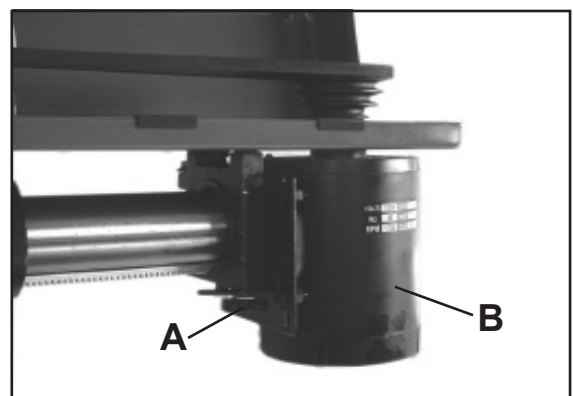

Figure 24
3. Release the tension on the belt by loosening the belt tension lock (A-Fig.24) and pull forward on the motor (B-Fig. 24).